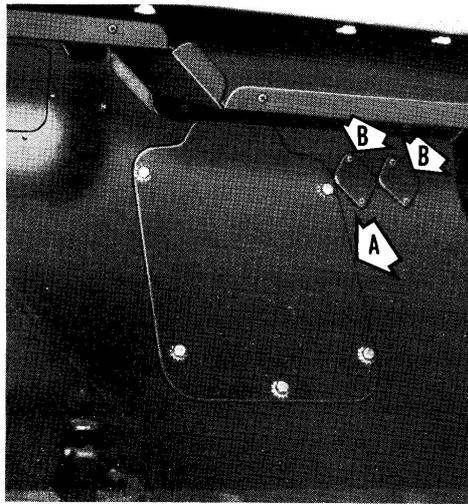

Fig. 4. (A) Plate to be removed for installation of engine heater. (B) Plates to be removed for installation of slave receptacle.
- a. Remove the plate covering the engine heater compartment on the right hand side of the floorboard, Fig. 4.
- c. Remove the cover plates on the right hand side of the floorboard, Fig. 4.